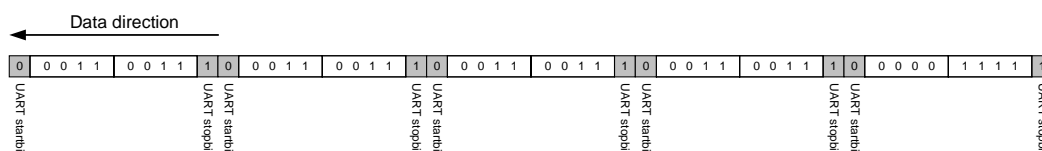

Figure 8. Recommended nRF903 preamble
The F0-byte makes it possible for the UART to locate the correct position of the start and stop bits (see Figure 8). Please note that the data bits in the figure have been reversed compared to what is specified above. This is due to the fact that UARTs normally reverse data before adding startbit (0) and stopbit (1) to each byte.